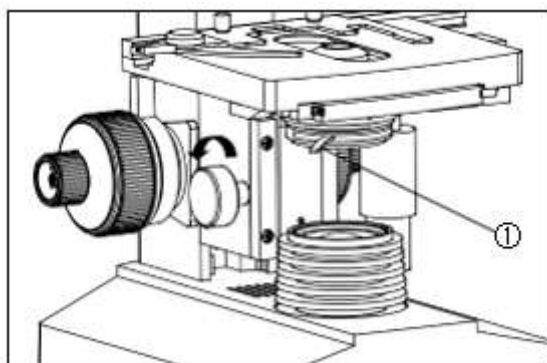

Figure-22
8.2.4 Condenser Adjustment (Figure-22)
8.2.5 Aperture Iris Diaphragm adjustment (Figure-22,23)